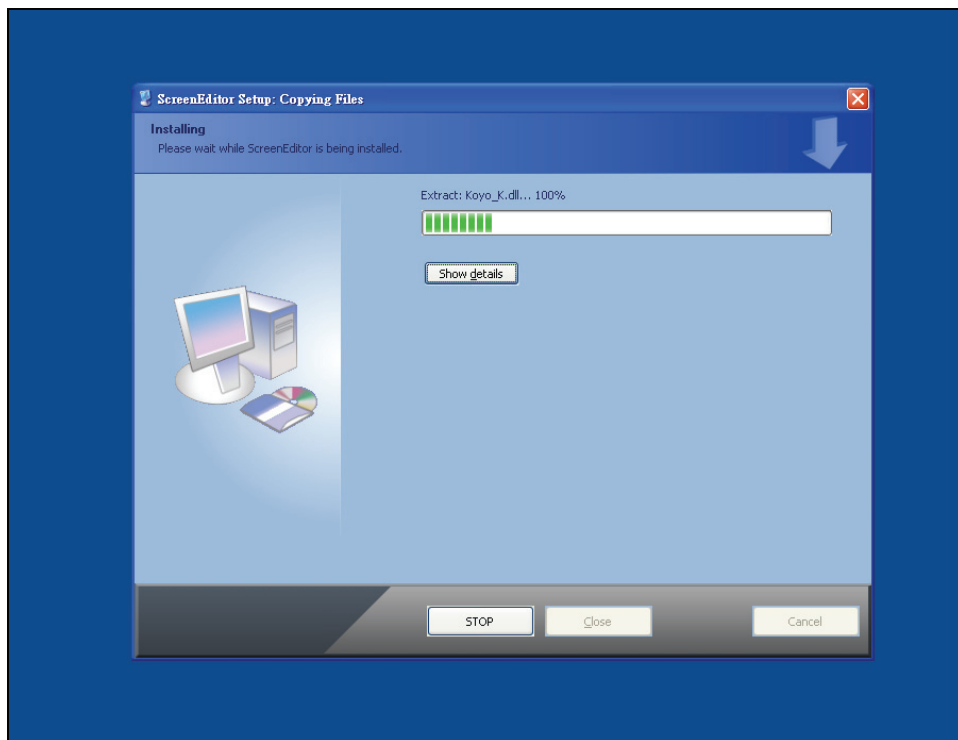

Fig. 2.1.5 Starting ScrEdit installation
- Step 4: Then click **Install** button to start ScrEdit installation (Fig. 2.1.5).